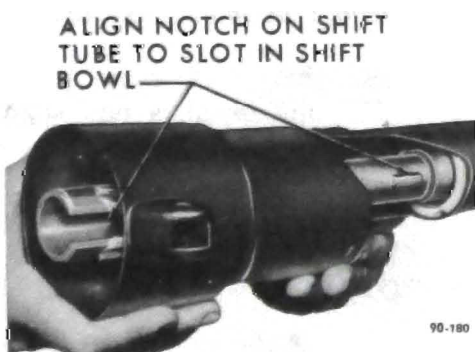

Figure 90-126 - Installing Shift Bowl
8. Install bowl and rotate it to be sure it is seated in bearing. See Figure 90-126. Shift lever must not be installed before installing bowl.
2. Insert the shift tube assembly into the lower end of the jacket and rotate until the upper shift tube key slides into the bowl keyway. See Figure 90-126.